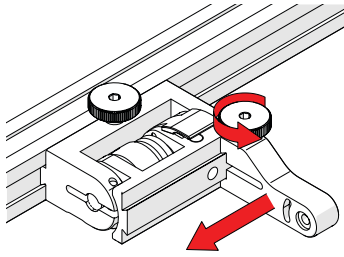

Fig. 89 - Position swing arm
- 5.** Loosen the swing arm knob and slide the swing arm to the opposite end of the probe holder bracket (*Fig. 89*) or preferred position. Tighten swing arm knob.